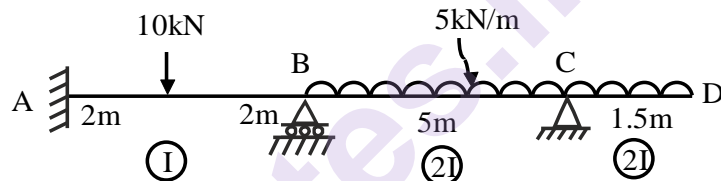

Fig. 8
7. Analyse the continuous beam as shown in fig. 8 by flexibility method and draw BMD.